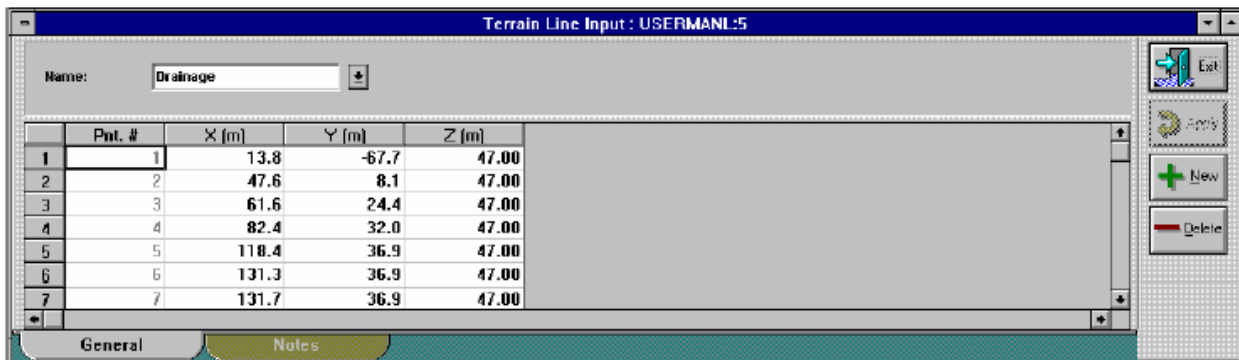

Figure 43. Terrain-line input: General tab.
2. Select  on the terrain-line input dialog (see Figure 43).